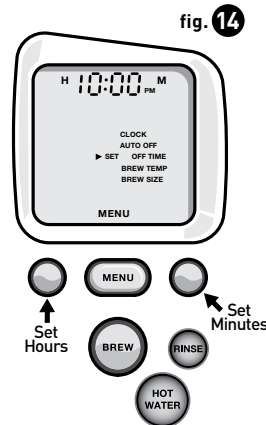

fig. 14
- After setting the desired time, press the MENU Button to save the "ON TIME" and move to the "SET OFF TIME" (fig. 14).
- If you want to set an "OFF TIME," repeat the procedure above in steps b & c to set your desired "OFF TIME" (fig. 14).